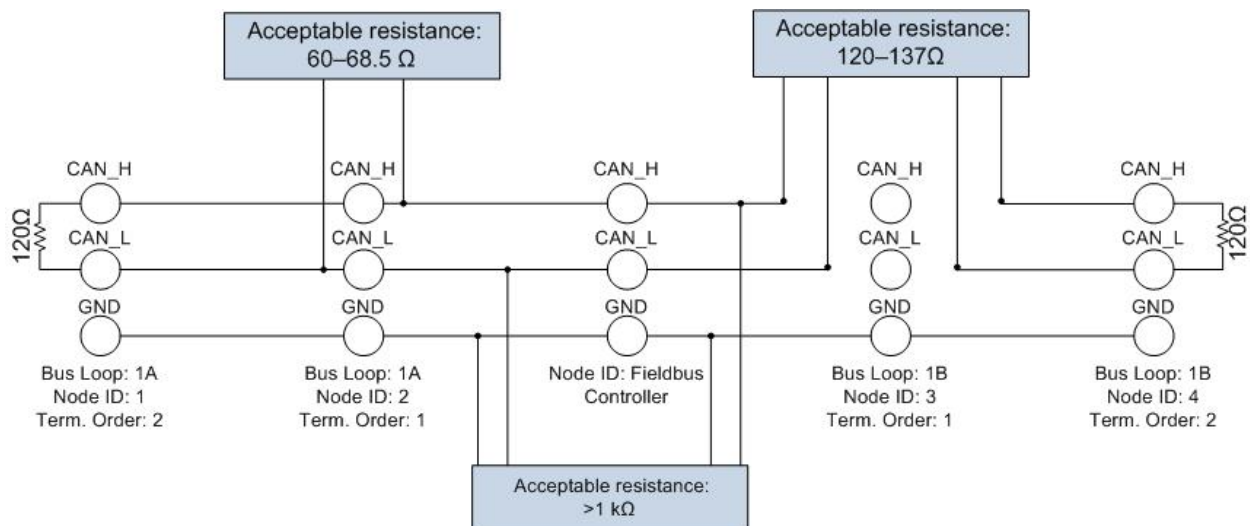

Fig. 12. Measuring resistance on complete loop to the left, and on disconnected loop to the right.
The field bus loop must be terminated in each end; this is done by connecting terminal 4 and 5 in the interface box. There are two ways of measuring that the loop is correctly terminated and all actuators are correctly connected, see Fig. 12.
7. Measure loop to make sure it is terminated and all actuators connected correctly, see Fig. 12.